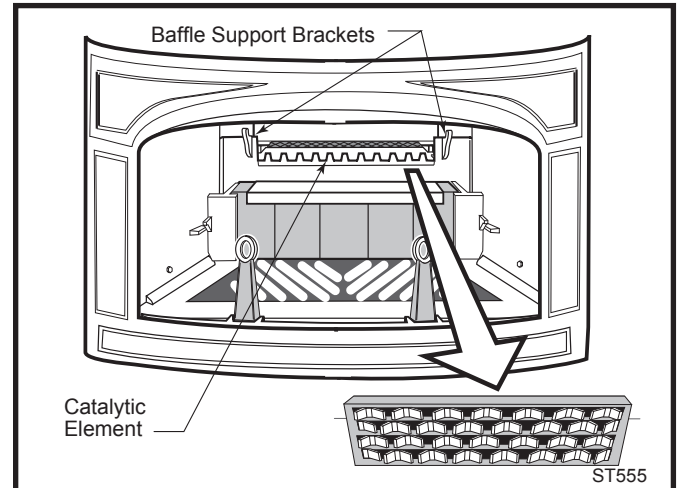

Fig. 6 Remove the baffle.
4. Lift the baffle off its support brackets. Remove it from the stove and set it down on a protected surface. (Fig. 6)